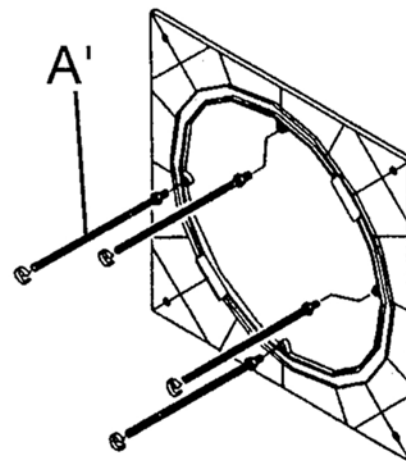

fig. 12
5. Screw the 35 cm long rods (A') into the outer clamp plate (D). (**FIG 12**)